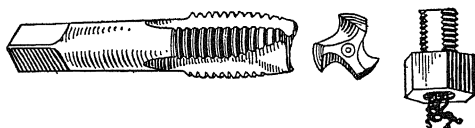

FIG. 177.—“Gun” tap. (Greenfield Tap and Die Corporation.)
*The G. T. D. gun tap* (Fig. 177) is a very efficient tap for the reasons that it is strong, shears the chip, and does not clog since the chip “shoots” out ahead of the tap.